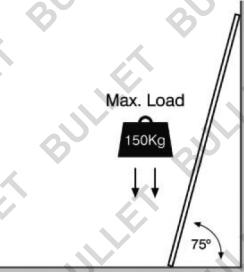

Fig.1
- Each mechanism is connected to a locking lever visible on the outside (see Fig.1). The locking levers have 2 purposes. They indicate whether the mechanism is locked (or not), and they serve as buttons for releasing the pins (lowering the ladder).